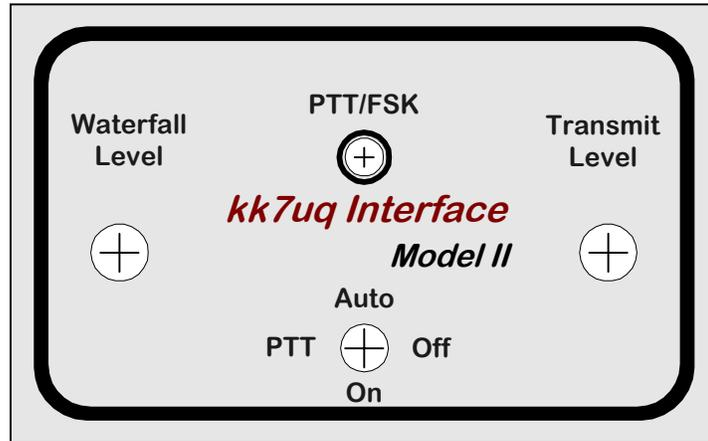

Figure 5.8 Panel Overlay
5.3.1.3 Panel Overlays - the overlay for the top cover carries the legends and identification of all functions on the panel. It is produced with a photo printer onto photo quality paper, hence it is thicker than normal printer paper and has a glossy finish. A reproduction of the overlay is shown below in figure 5.8. The actual overlay is provided in the interface kit. The overlay is made to fit over the gold oval outline on the top of the Altoids box.